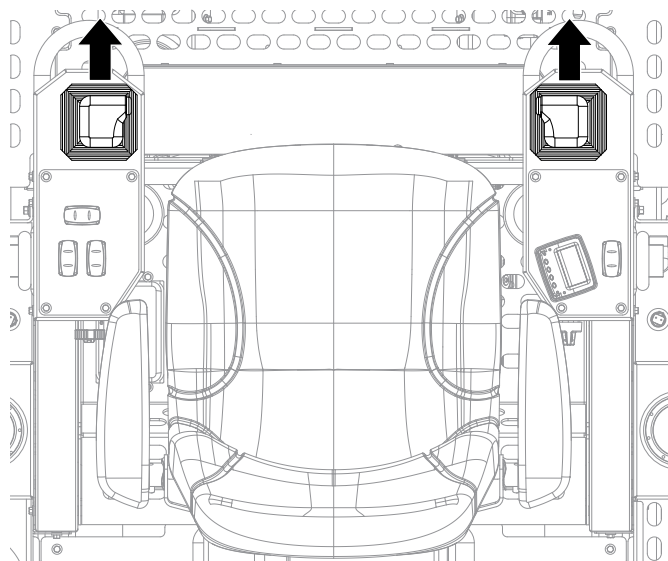

Figure 23. Joysticks (Forward)
1. Push both the left and right joysticks **forward** (Figure 23).